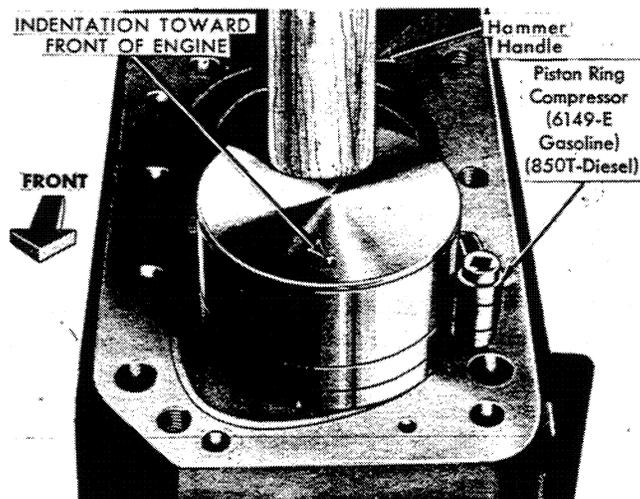

Figure 34
2. Lubricate the rings on No. 1 piston with engine oil. Compress the rings with Piston Ring Compressor 6149-E (gasoline) or 850-T (diesel) as shown in Figure 34. Install the bearing inserts in the rod and the cap if not already installed.